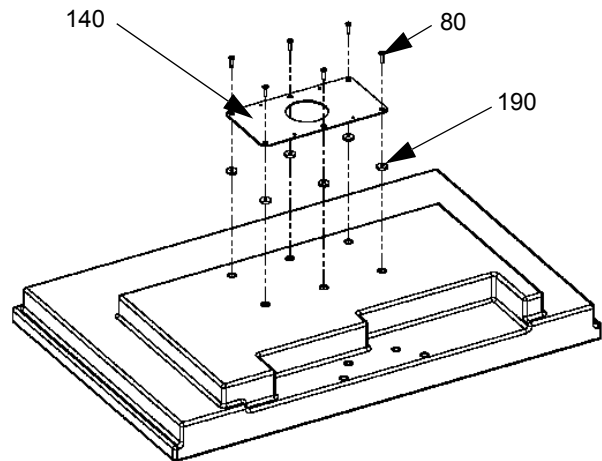

Figure 6: Attach Interface Bracket to Display
3. Install four M4 screws (40 or 50) into the four mounting holes on centris bracket.(see figure 6)